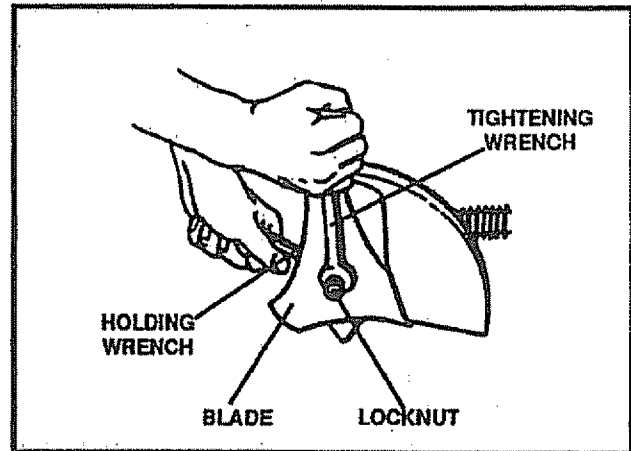

FIG. 12
**CAUTION: WHEN REMOVING OR TIGHTENING THE BLADENUT, ALWAYS USE THE METHOD SHOWN IN FIGURE 12. THE HOLDING WRENCH MUST ALWAYS BE POSITIONED ON THE NUT BEHIND THE CUTTING BLADE.**
- Remove the 1/2-20 locknut (See Fig. 12) securing the blade to the drive shaft.